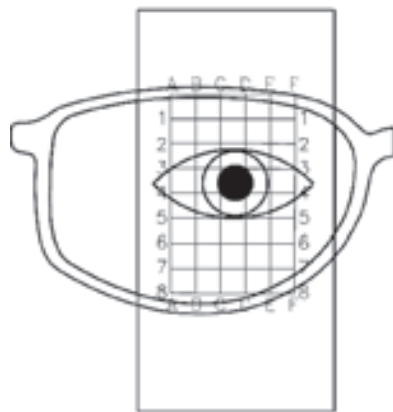

Figure 4
- Attach the Frame Templates to the selected frame using the self-adhesive pads (Figure 4).